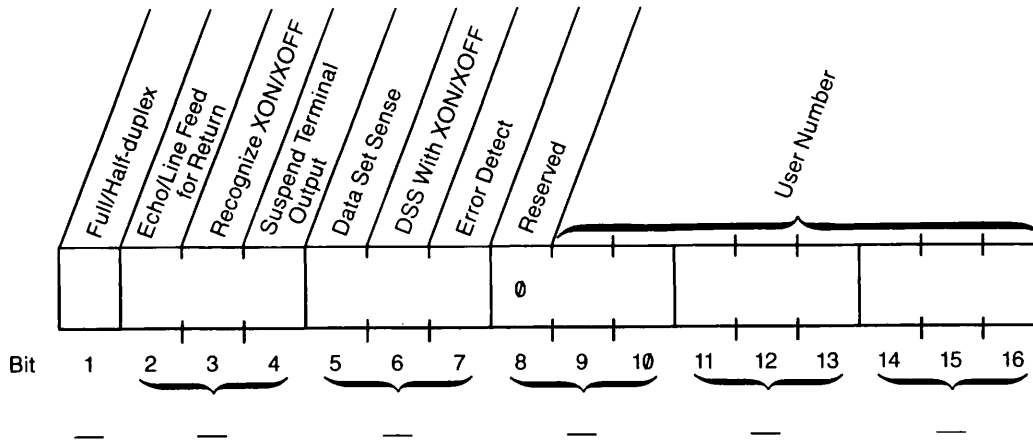

FIGURE A-1. AMLC Octal Bitstring Templates
2. Select the appropriate values from the list for each parameter and fill in the blanks for each bit in the *config\_word* template (Figure A-1).
3. Write the octal value for each block of zeros and ones in the template in the spaces provided. A conversion table is supplied in Figure A-1 for your convenience.
The *config\_word* is a composite of sixteen bits, each one having its own meaning as described below. Use the template in Figure A-1 to construct a *config\_word* beginning at the left, with bit 1.
The *lword*, like the *config\_word*, is a composite of sixteen bits, each one having its own meaning as described below. Use the template in Figure A-1 to construct an *lword* beginning at the left, with bit 1.